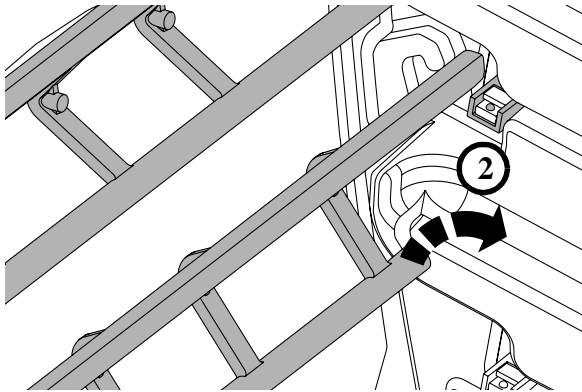

Figure 4
- ◆ Next remove the bottom leg on both sides (figure 4).